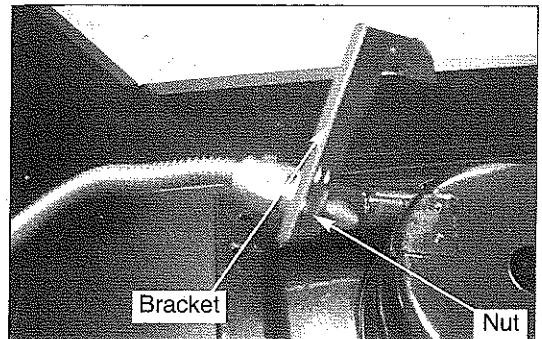

Fig 12
16. Unscrew the nut securing the bracket on the side burner orifice. (See Fig. 12)
18. Use the nut removed in step 16 to secure the bracket onto the side burner orifice. (See Fig. 12)